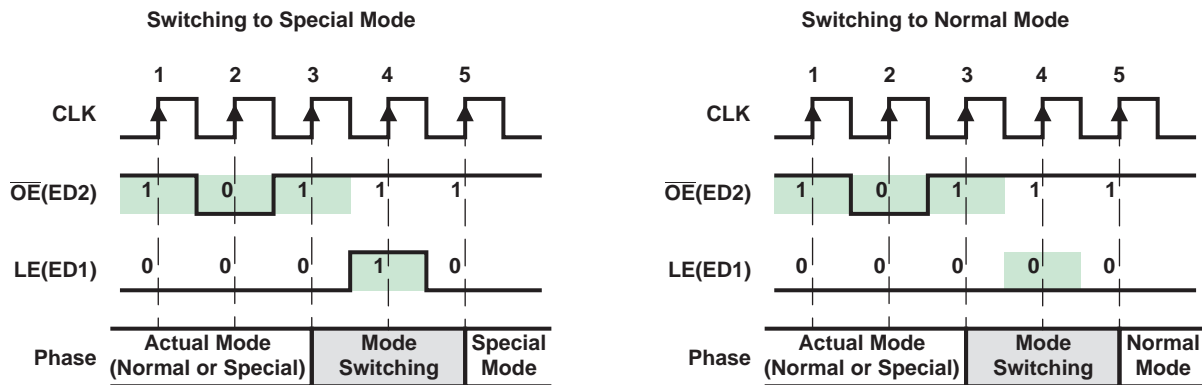

Figure 15. Mode Switching
In order to switch between its two modes, TLC5916/TLC5917 monitors the signal $\overline{OE}(ED2)$. When an one-clock-wide pulse of $\overline{OE}(ED2)$ appears, TLC5916/TLC5917 enters the two-clock-period transition phase, the Mode Switching phase. After power on, the default operation mode is the Normal Mode (see Figure 15).
As shown in Figure 15, once a one-clock-wide short pulse (101) of $\overline{OE}(ED2)$ appears, TLC5916/TLC5917 enters the Mode Switching phase. At the fourth rising edge of CLK, if LE(ED1) is sampled as voltage high, TLC5916/TLC5917 switches to Special mode; otherwise, it switches to Normal mode. The signal LE(ED1) between the third and the fifth rising edges of CLK cannot latch any data. Its level is used only to determine into which mode to switch. However, the short pulse of $\overline{OE}(ED2)$ can still enable the output ports. During mode switching, the serial data can still be transferred through SDI and shifted out from SDO.